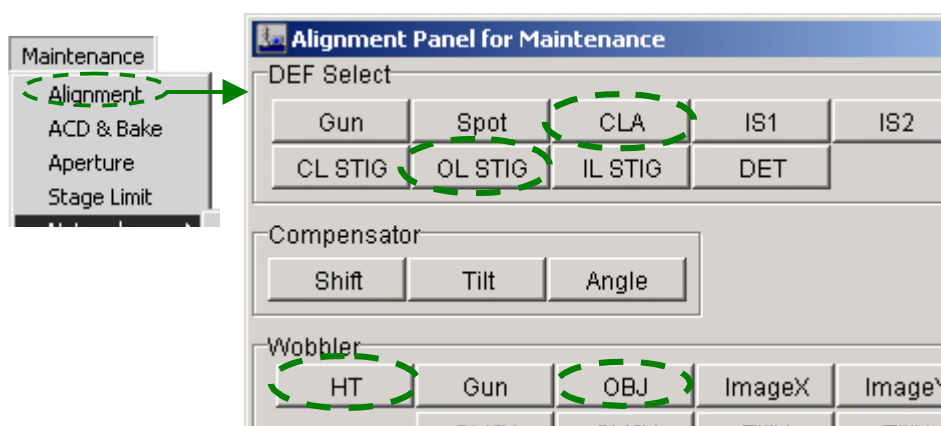

Fig. 5.28 Alignment Panel for Maintenance window
- ◆ Select **Maintenance** from the **TEM Controller** menu bar and click on **Alignment** to open the **Alignment Panel for Maintenance** window (☞ Fig.5.28).
1. Press the MAG 1 switch (R1-②) to turn it on ; then set the magnification to 20 000× in MAG mode.
2. Adjust the BRIGHTNESS (L1-⑥) knob for optimum brightness of the image.
3. Press BRIGHT TILT (I1-⑤) or click on DEF Select **CLA** (☞ Fig.5.28); then adjust the SHIFT knobs (L1-⑧, R1-③) to center the beam.
4. Focus the image using OBJ FOCUS (R1-⑥).
5. Move the image of a suitable hole on the specimen to the center of the screen using the SC-① X,Y buttons or CS-② trackball.
6. Press OBJ STIG (L1-⑤) or click on DEF Select **OL STIG** in the **Alignment Panel for Maintenance** window.
3. Press BRIGHT TILT (L1-⑤) or click on DEF Select **CLA** in the **Alignment Panel for Maintenance** window; then adjust the SHIFT X and Y knobs (L1-⑧, R1-③) to center the beam.
4. Adjust the OBJ FOCUS COARSE and FINE knobs (R1-⑥) to focus the image.
5. Move a suitable image of an amorphous region on the specimen to the center of the screen using the trackball (SC-②) or X,Y buttons (SC-①).
6. Press OBJ STIG (L1-⑤) or click on DEF Select **OL STIG** in the **Alignment Panel for Maintenance** window (☞ Fig.5.28).